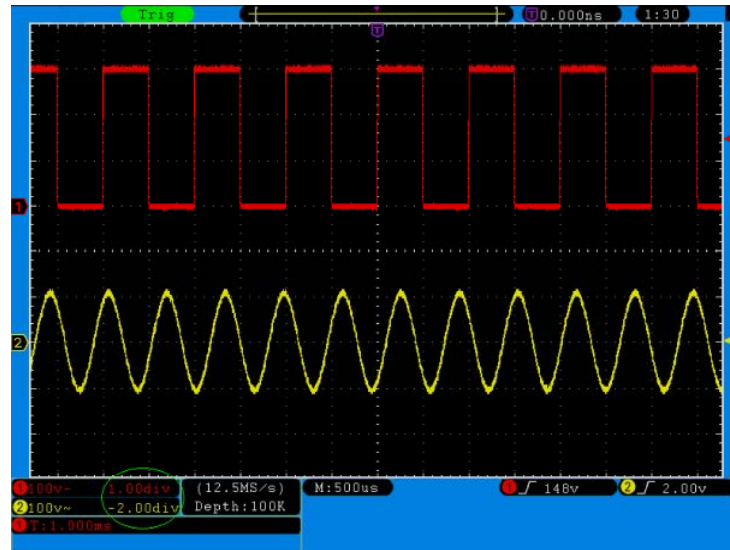

Fig. 25 Information about Vertical Position
3. When the vertical position of the channel waveform is adjusted, the screen shows the information concerning the vertical position at the lower left corner (see **Fig. 25**).